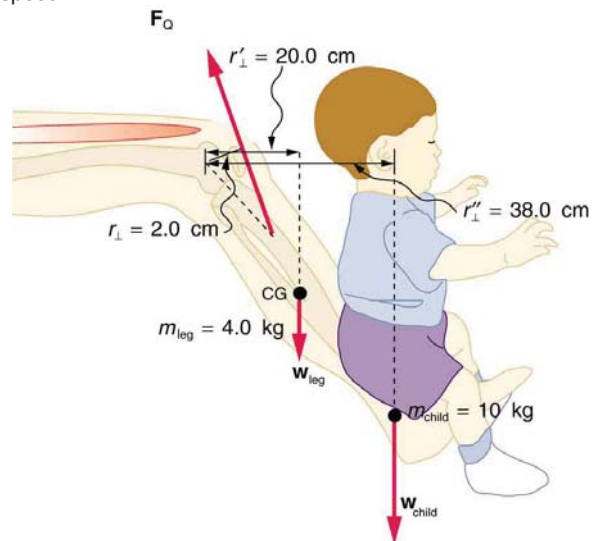

Figure 9.42 A child being lifted by a father's lower leg.
34. A father lifts his child as shown in **Figure 9.42**. What force should the upper leg muscle exert to lift the child at a constant speed?